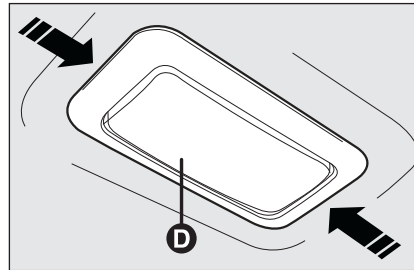
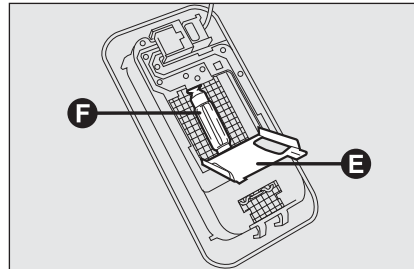

fig. 30
fig. 31
- manipulate the points shown by the arrows and remove the light **D-fig. 30**;
- open the protective flap **E-fig. 31**;
- close the protective flap **E-fig. 31** and secure light **D-fig. 30** into its housing making sure that it locks into place.